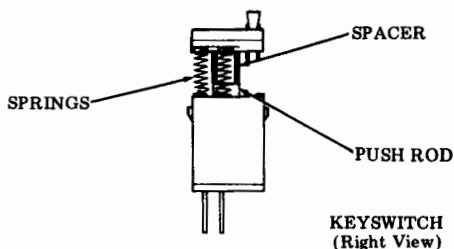

Fig. 12—Blocking Spacer Reassembly
- In reassembly, insert spacer from the left and observe that the spacer encapsulates the keyswitch push rod and that the front part of the spacer is located between the keyswitch springs. (Fig. 12.)